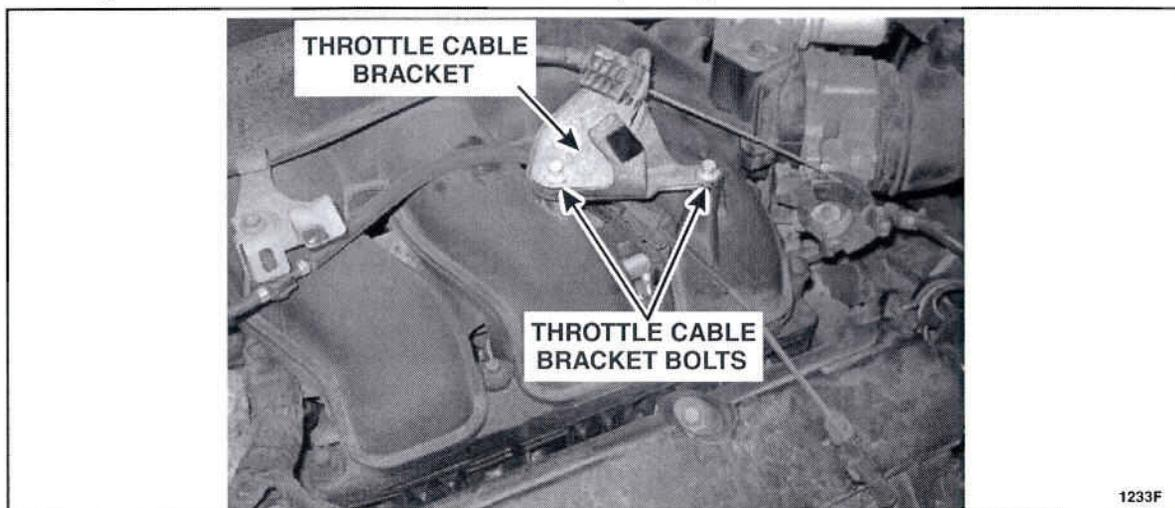

FIGURE 5
5. Reposition the throttle cable bracket and tighten both bolts. See Figure 5.